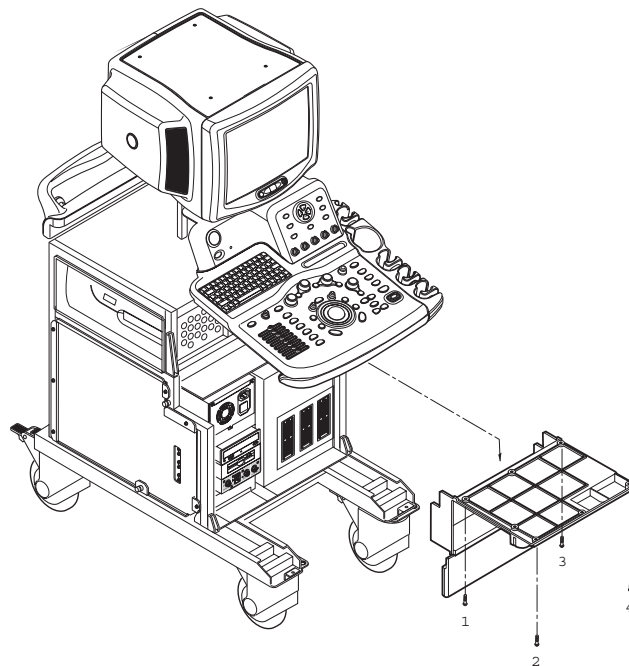

Figure 8-58 Removing the OP Bottom Cover
- 7.) Unscrew four (4) screws (1-4). Refer to Figure 8-58.